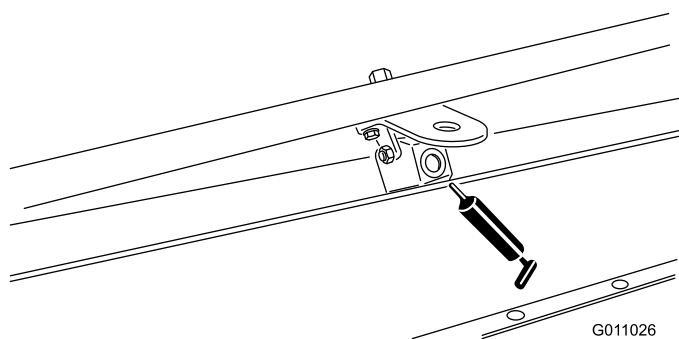

Figure 30
- Brush pivot (2) (Figure 30).